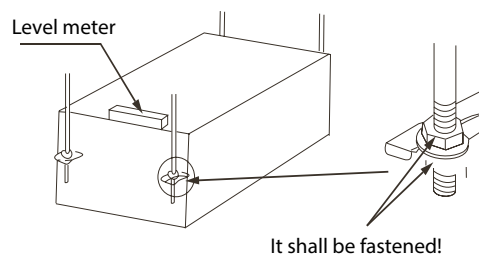

Figure 3.7
3. Confirm the levelness of the main body by the level meter (strictly prohibit the declination toward the non-drain side. It had better decline toward the drain side). Refer to Figure 3.7.